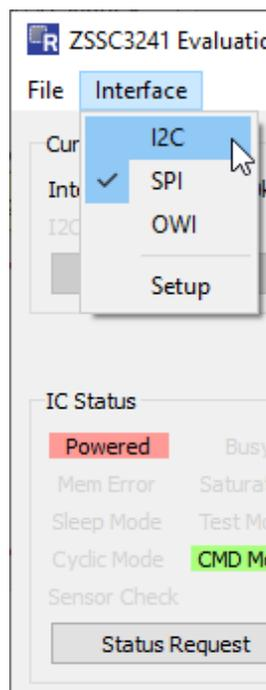

Figure 5. Selecting I2C Communication
1. Switch the digital interface to I2C from the Interface menu, see Figure 5.